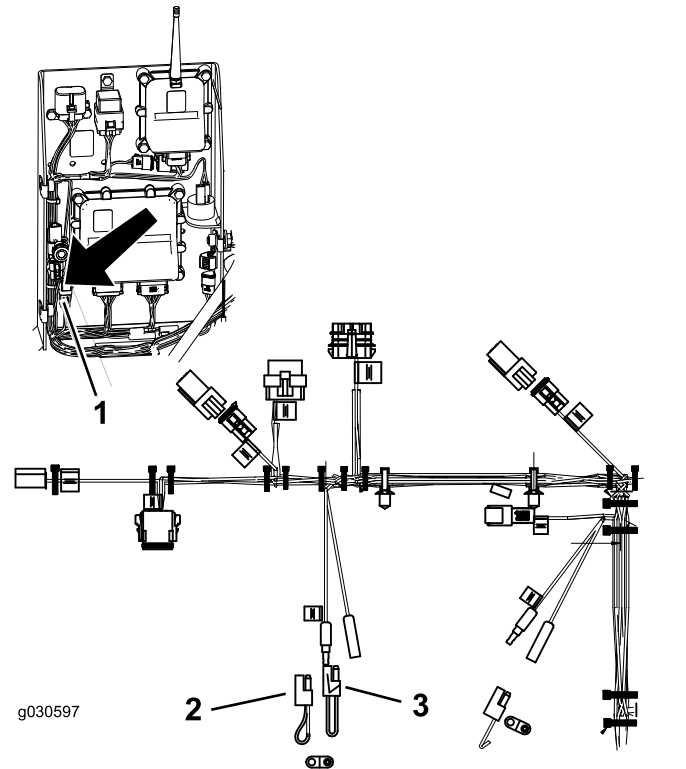

Figure 31
2. Unplug the 2 wire connections from the pigtail connector show in Figure 31.